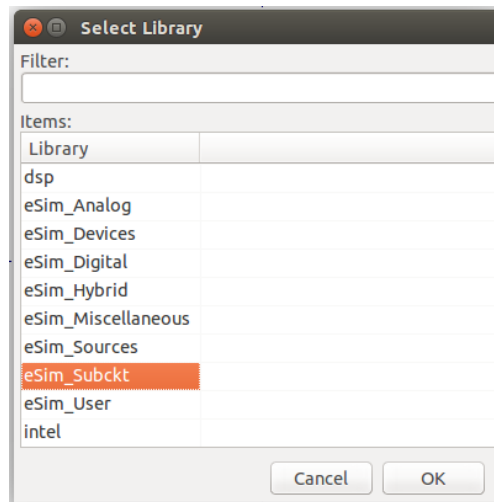

Figure 8.6: Selecting Working Library
2. Select the Current Library as eSim\_Subckt shown in Fig. 8.6